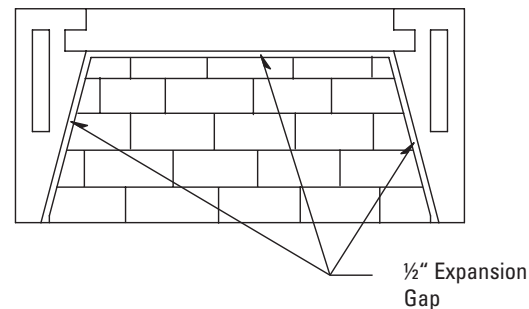

FIGURE 17
3. Start the firebrick at the front edge of the floor of the Isokern firebox, proceeding inward toward the back. Let the floor brick gap approximately 1/2" off the back wall and side walls. This air space allows heat expansion of the firebrick and is to be left empty of mortar. **(Figure 17)**